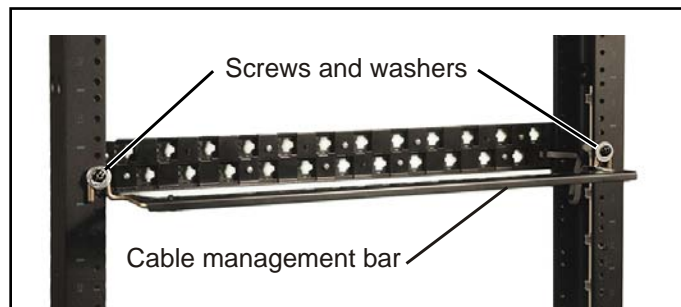

Figure 4
- Position the bar behind each panel at the middle pair of holes on the back of the rack as shown (Figure 4).